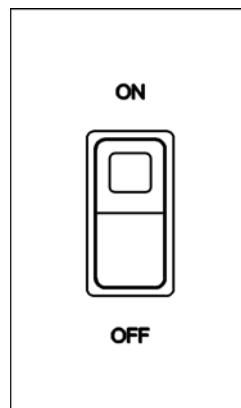

Figure 2-2 Compartment POWER ON/OFF Control
2. Turn ON/OFF switch to OFF (Figure 2-2)
2. Turn the steamer ON/OFF power switch to the ON position (Figure 2-2)